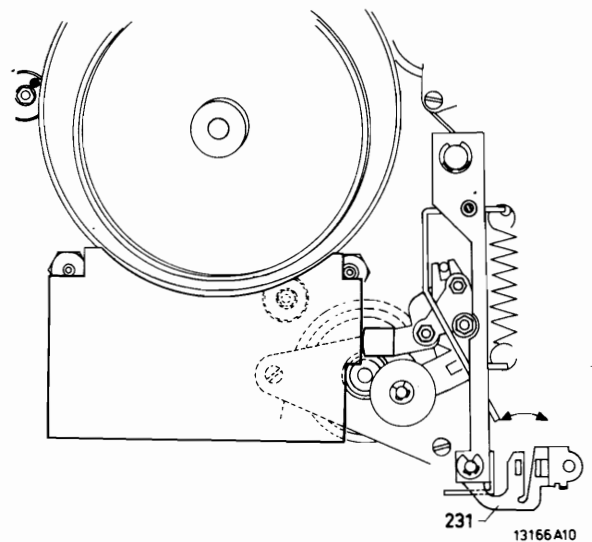

Fig. III-21
- Press the jig according to Fig. III-21 against the cassette roller spindles.
- Adjustments can be made by bending bracket 231 (Fig. III-21).